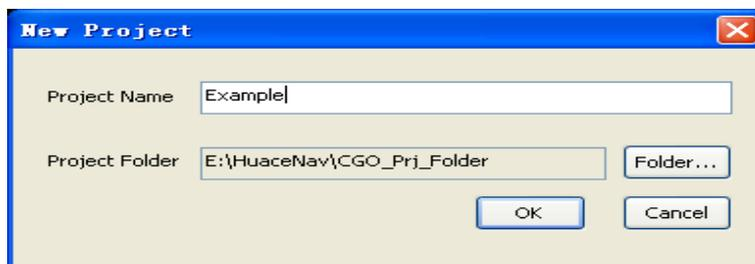

Figure 1-1 New Project
(1) To create a new project, select the main menu command **File/New**. The New Project dialog appears, as shown in Figure 1-1.